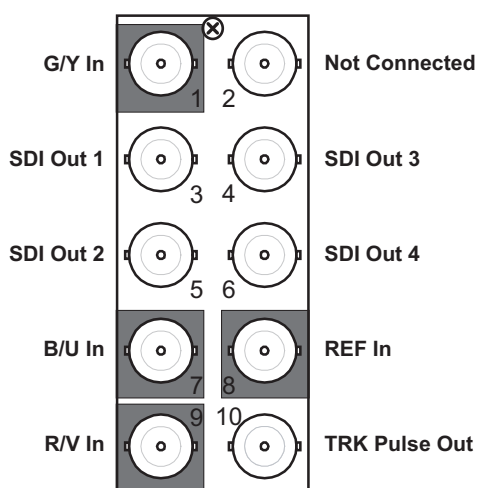
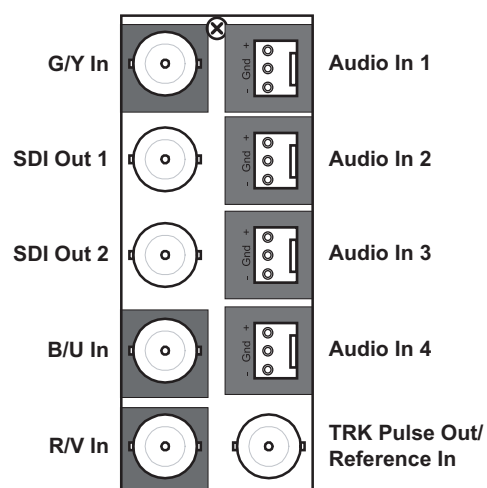

Figure 2.2 Cable Connections for the 8310AR-030 and 8320AR-030 Rear Modules
Figure 2.3 Cable Connections for the 8310AR-037 and 8320AR-037 Rear Modules
- **8310AR-030** Rear Module — Each rear module occupies one slot and accommodates one card. This rear module provides four SD-SDI outputs, one tracking pulse output, and a reference input. (**Figure 2.2**)
- **8310AR-037** Rear Module — Each rear module occupies one slot and accommodates one card. This rear module provides four audio inputs, two SDI outputs, one tracking pulse output, and a reference input. (**Figure 2.3**)
- **8320AR-030** Full Rear Module — Each rear module occupies two slots and accommodates one card. This rear module provides four SD-SDI outputs, one tracking pulse output, and a reference input. (**Figure 2.2**)
- **8320AR-037** Full Rear Module — Each rear module occupies two slots and accommodates one card. This rear module provides four audio inputs, two SDI outputs, one tracking pulse output, and a reference input. (**Figure 2.3**)
- Full Rear Modules — Connect cables according to **Figure 2.2** and **Figure 2.3**.
The 8310AR-037 and 8320AR-037 Rear Modules provide four audio terminal blocks with removable connectors for Audio In 1, 2, 3, and 4. **Figure 2.3** Each connector has locations for the positive, negative, and grounded wires of a balanced analog audio cable.